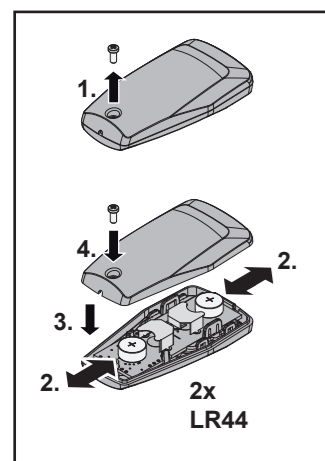

Fig. 2
4.1 Change / insert battery (fig. 2)